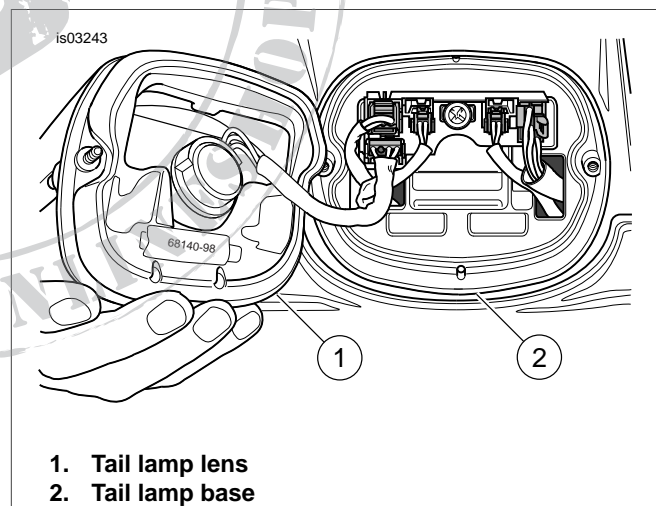

Figure 2. Remove Tail Lamp Lens
3. See Figure 2. Remove two screws and tail lamp lens (1) from base (2).
2. See Figure 2. Install tail lamp lens (1) on base (2) using two screws.